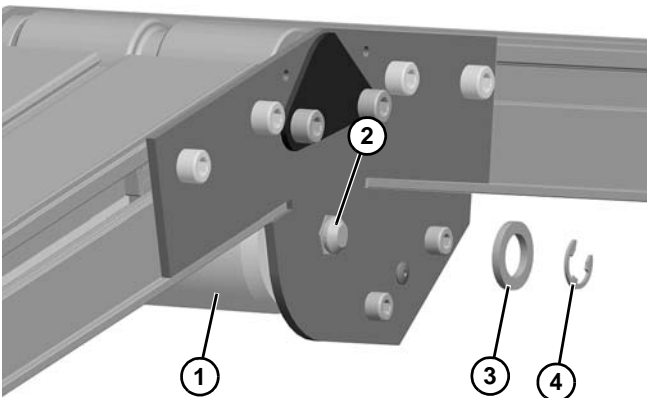

**Figure 78**
5. If equipped with a lower knuckle, install roller bearing assembly (**Figure 78, item 1**) into knuckle plate (**Figure 78, item 2**) with screws (**Figure 78, item 3**) on both sides of conveyor.
6. Install guards (**Figure 78, item 4**) with screws (**Figure 78, item 5**) on both sides of conveyor.